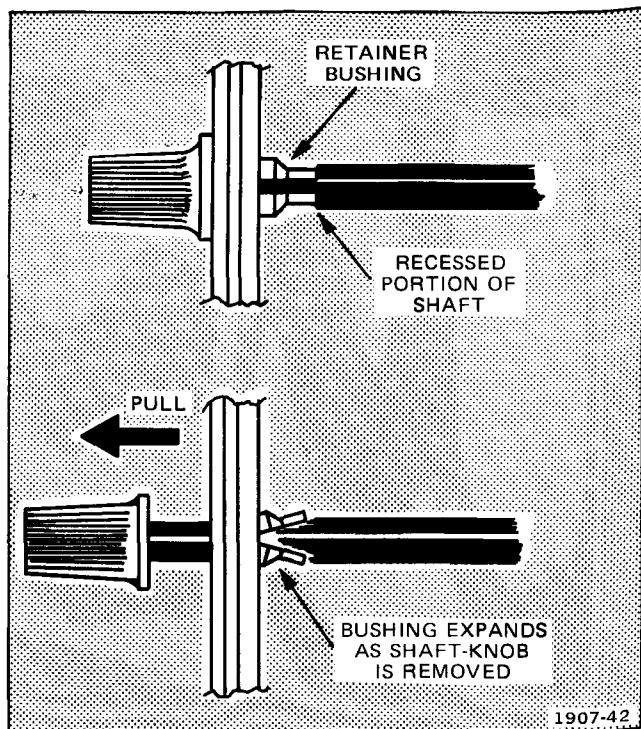

Fig. 5-4. Shaft-knob removal.
2. Pull on knob, while pushing on shaft, to free recessed portion of shaft from retainer bushing (see Fig. 5-4). Some shaft-knobs may require considerable force to remove.